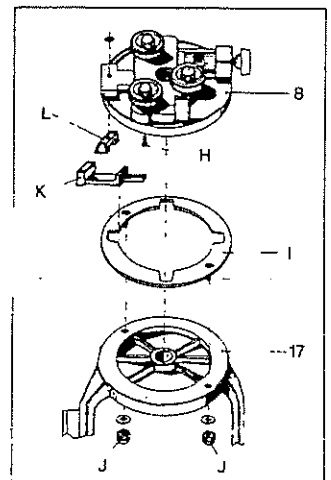

Fig 13
The illustration (Fig. 13) shows the components of the yoke assembly. The precise alignment of rollerhead (8) with yoke (17) is made possible by collar (I) which is fixed to the yoke by the locking nuts (J).
- (i) Firstly, grasp yoke in both hands and check it for movement left or right, if there is movement tighten nut (H) which increases the friction between the rip locating slide bar (K) and nylon block (L).
- (ii) Then, if the blade is still not parallel to the square, release the yoke clamp (10) and loosen the lock nuts (J) (Fig. 13/13a) and turn yoke slightly to left or right until the blade is in fact parallel to the square and therefore also parallel to the arm tracks. Then tighten all nuts.